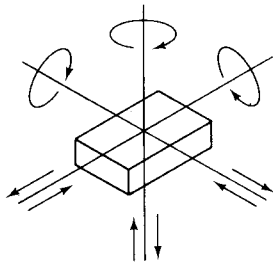

Fig. 4.36 The six ways in which movement can take place
The block (Fig. 4.36) can move in any of the six ways shown. That is, it can slide in three ways and rotate in three ways.
**Restricting movement.** In order to keep a workpiece in a given position it is necessary to prevent it moving in any of the ways shown in Fig. 4.36. Restriction of movement can occur in one of two ways: